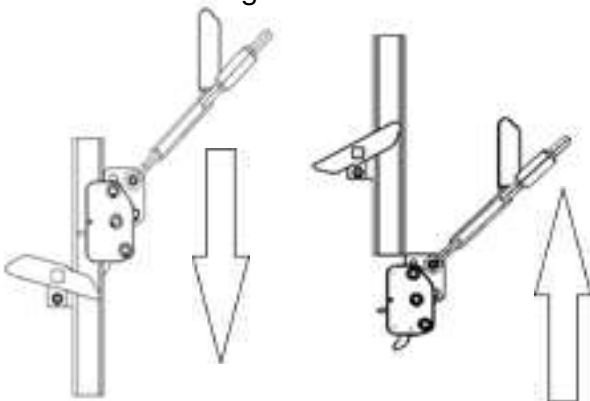

Fig. 17 Entering the climbing arrester system
3. When the guided type fall arrester reaches the type A or type B end stops (Fig. 17), the safety-runner is prevented from leaving the arrester rail unintentionally upwards or downwards.